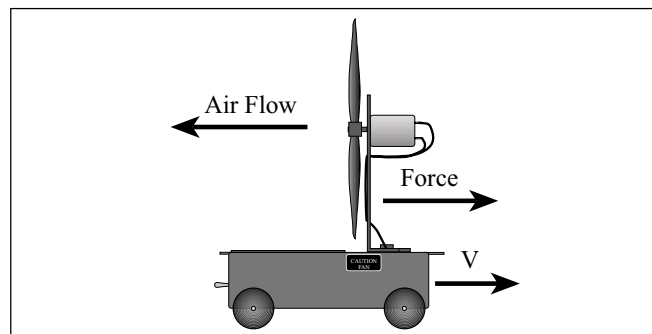

Figure 1: Fan Cart without Sail
2. Set the fan angle at zero degrees and turn the fan on to show which way the cart moves without the sail. See Figure 1.